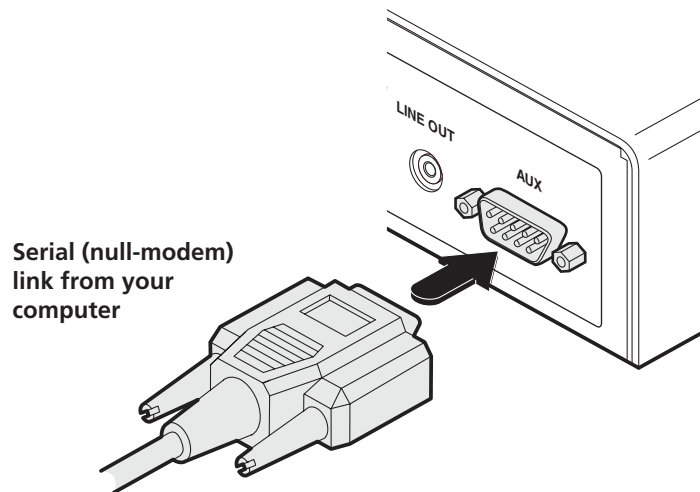

Figure 3-18. Connecting the serial link cable to local unit socket.
- 1 Connect a suitable serial 'null-modem' cable (see Appendix E for pin-out) between the AUX port on the right hand side of the ServSwitch Agility rear panel and your remote serial device. See Figure 3-18.